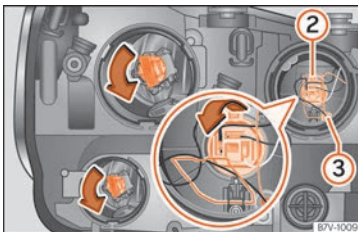

Fig. 63 Left headlight.
- Press the wire clip downwards and pull the bulb holder Fig. 63 out together with the bulb.
- Pull the bulb holder Fig. 63 out backwards together with the bulb.